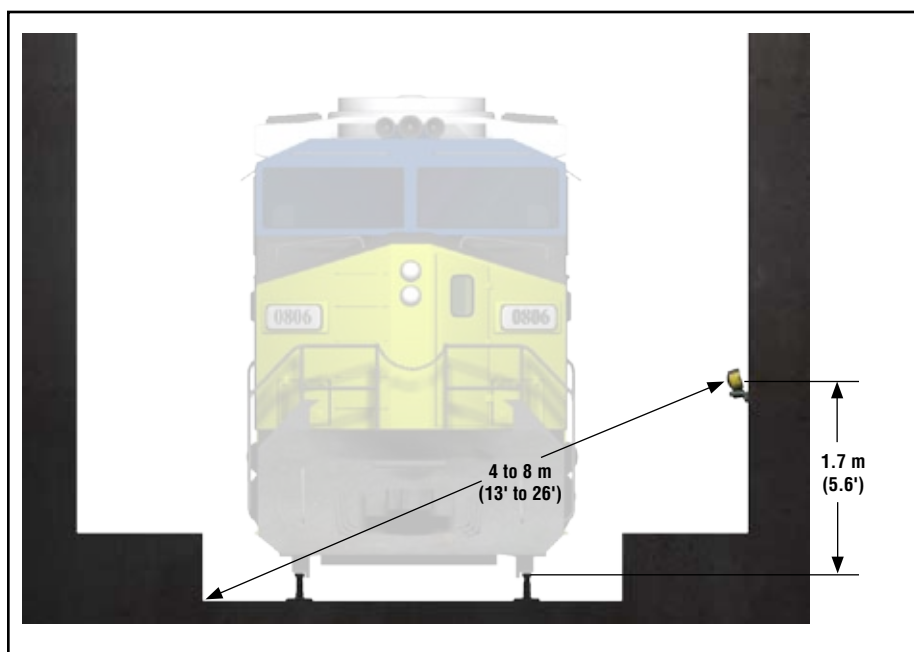

Figure 3. Setup for tunnel train detection
1. Mount the sensor approximately 1.7 m (5.6') above the rails, and align the sensor so the center of the beam strikes the corner of the tunnel beyond the far rail, as shown in Figure 3. The red Signal LED will flash faster as the alignment improves.